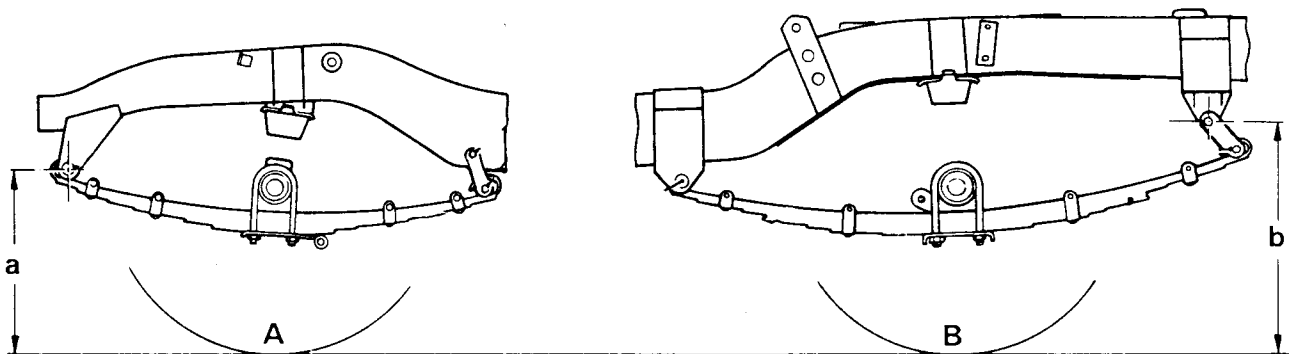

Fig I3.1
- (4) Refer to Fig I3.1. Measure the distance from the ground to the shackle pin centres on both front and both rear wheels (measurements 'a' for the front wheels and 'b' for the rear wheels). The two 'a' measurements shall be the same to within 25 mm. The two 'b' measurements shall be the same to within 25 mm.